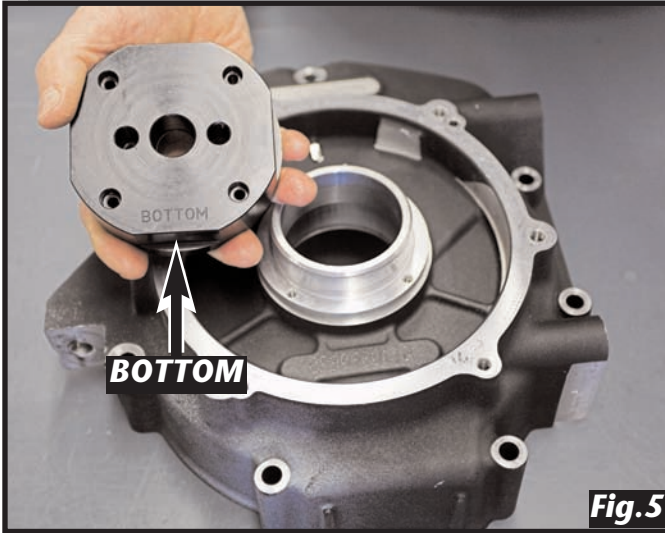

Fig.5
A. Look over locator plate No. 959-3 it has the word "BOTTOM" engraved as shown. See Fig. 5.